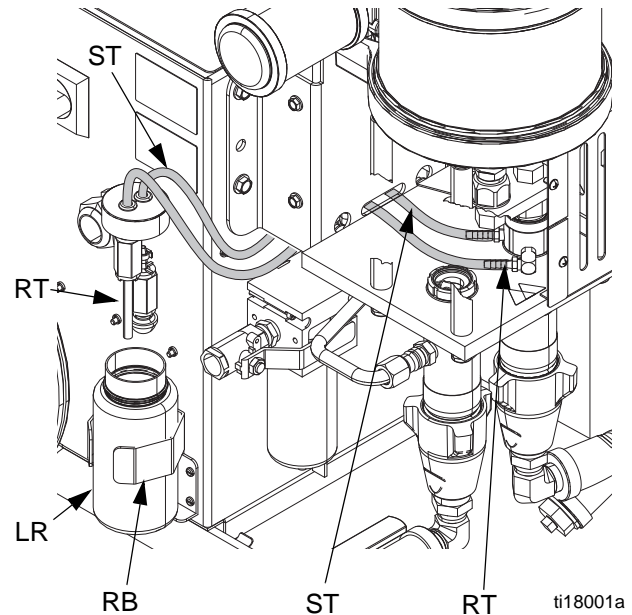

FIG. 13. Pump Lubrication System
2. Lift the lubricant reservoir (LR) out of the bracket (RB) and remove the container from the cap. Holding the cap over a suitable container, remove the check valve and allow the lubricant to drain. Reattach the check valve to the inlet hose (ST). See FIG. 13.